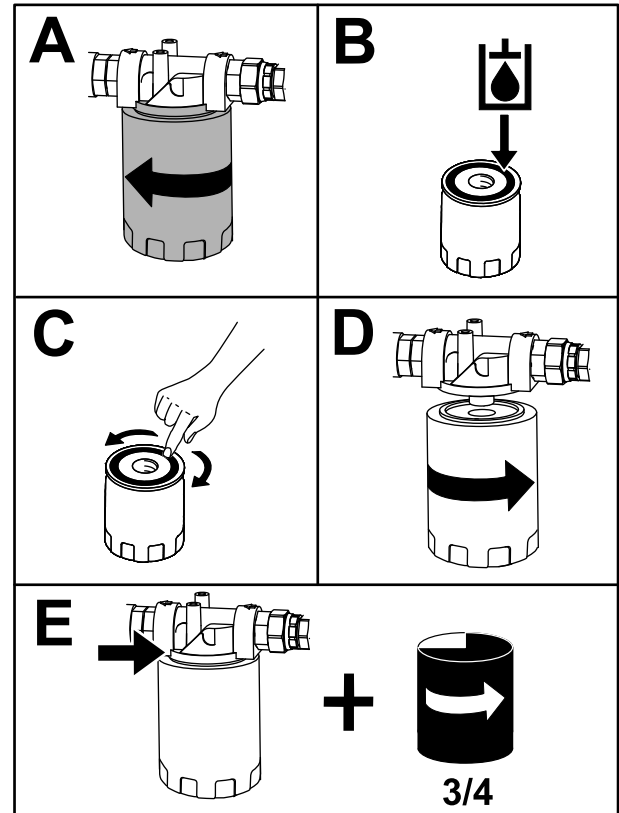

**Figure 34**
8. If the fluid level is low, remove the filler plug and slowly add hydraulic fluid into the reservoir to raise the level to the upper notch on the dipstick (Figure 34).